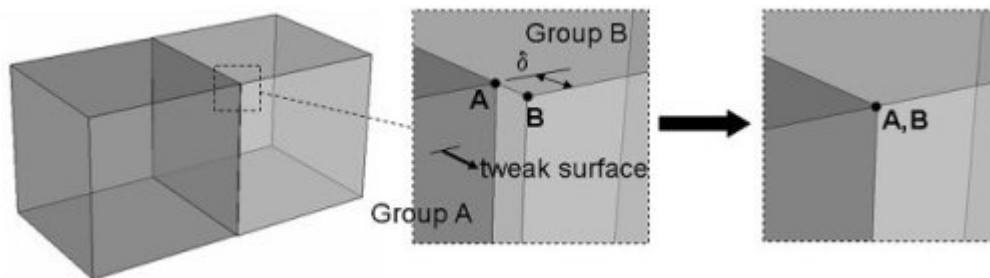

Figure 1. Example of a solution generated to correct misaligned volumes using the tweak operator
- Given that vertex A and vertex B are slightly outside of tolerance T by a distance **delta** as shown in Figure 1.